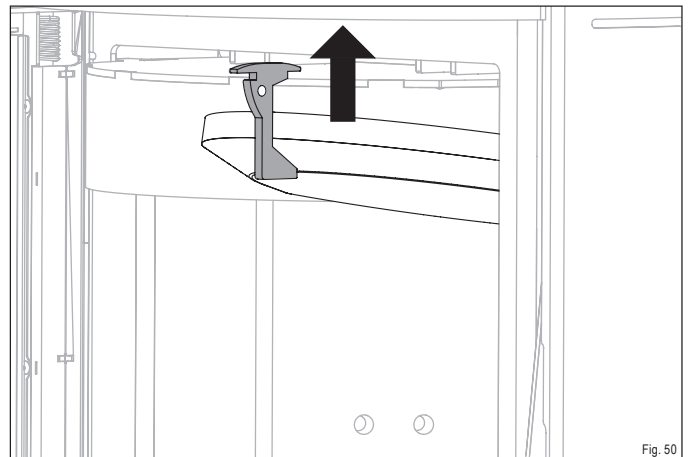

Fig. 50
- ▶ Slide the firebrick retainer upward (Fig. 50).